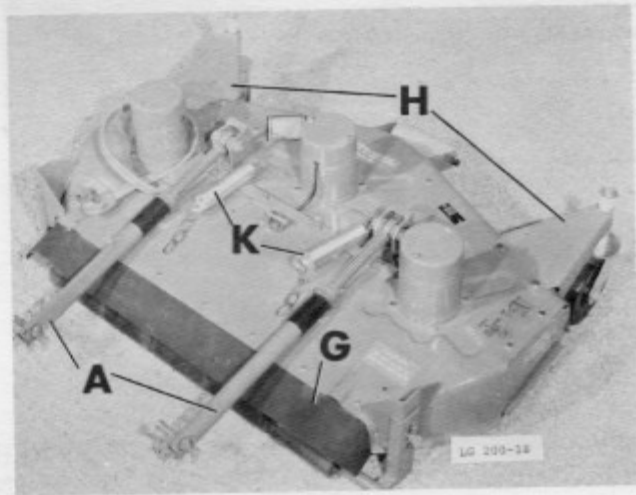
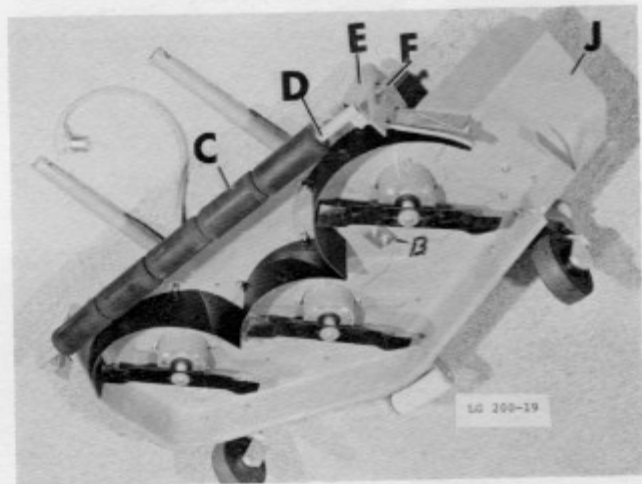

Figure 44
Figure 45
Figs. 44 & 45 - 1. Assemble lift arms "A" (Fig. 44) onto top deck with reinforcement plates "B" (Fig. 45) on underneath side using 4 - 3/8 x 1-1/2" machine bolts.
2. Install the rollers "C" with flat washer "D" (Fig. 45) between each roller onto shaft and insert the ends of the shaft into adjusters "E" (Fig. 45).
4. Install discharge flap "G" (Fig. 44) (rear discharge unit only) so flap is sandwiched between reinforcement strip and underneath side of top deck. Secure in place using 7 machine screws as shown.
5. Install caster "H" (Fig. 44) with 3 bushings under caster bracket and 2 bushings above caster bracket and secure with flat washer and pin clip.
The helper springs "K" Fig. 44 must be assembled before initial installation by attaching a three-link chain to the closed "eye" of each spring with an "S" hook. After the assembly is installed, the "S" hook ends should be closed to prevent disassembly when the mower is raised.